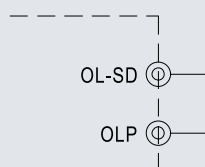

Fig 5.2 Insert the CN3
- (2) Insert the shorting connector on CN3 that is shown in Fig. 5.2, the O.L.P mode will be "constant current limiting with delay shutdown after 5 seconds, re-power on to recover"